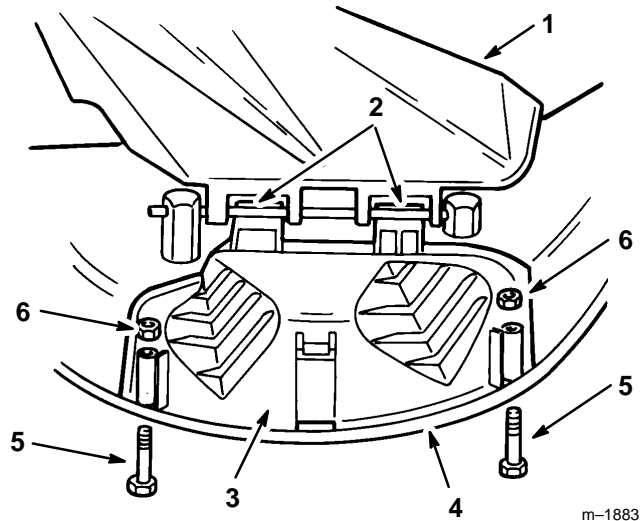

Figure 13
2. Lift the grass deflector and slide the tabs on top of the discharge cover under the grass deflector retaining rod. Rotate the discharge cover down over the opening, and onto the lower lip of the mower (Fig. 13).
3. Secure the discharge cover to the lower lip of the mower with bolts and nuts (Fig. 13).